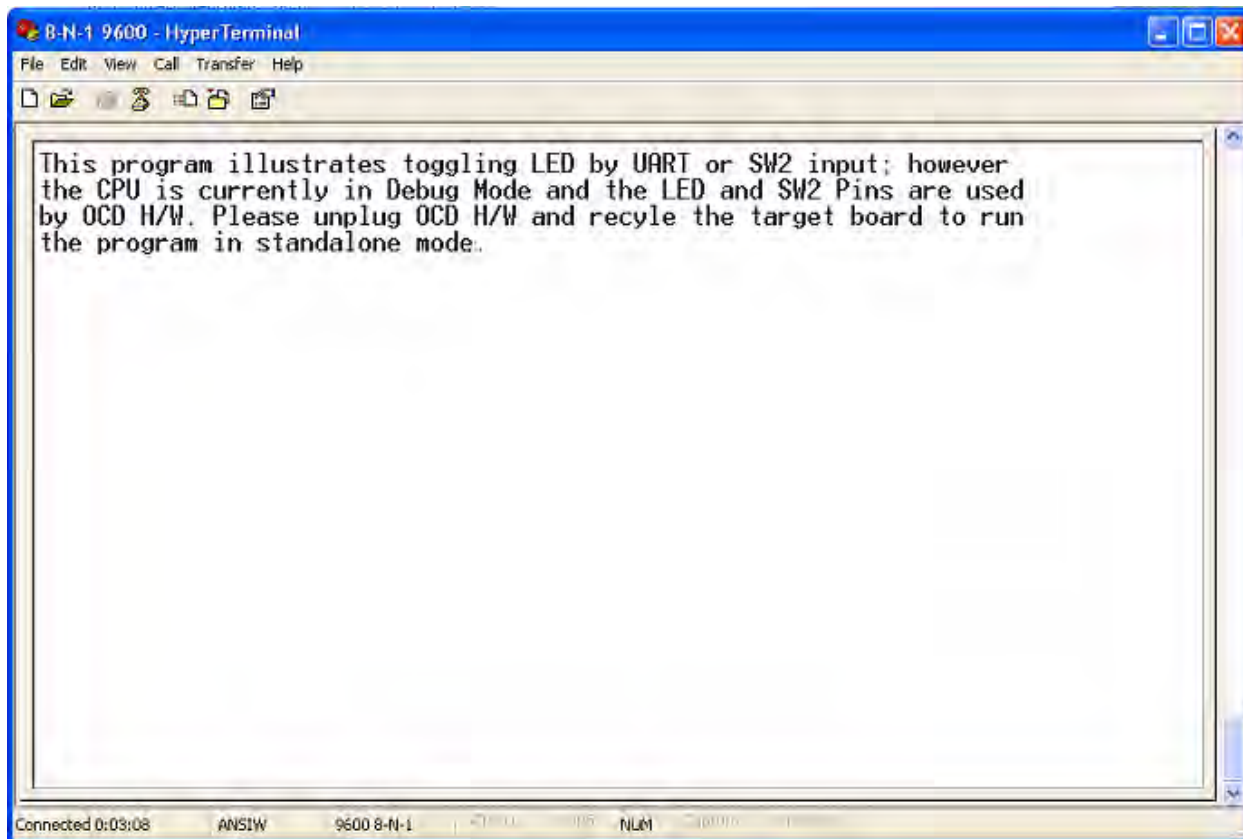

Figure 21. HyperTerminal Message After Selecting Go
11. From the **Emulation** menu of the OCD software, select **Go**. As a result, you should see the HyperTerminal message shown in Figure 21.
4. From the **Debug** menu, select **Run**. As a result, you should see the HyperTerminal message shown in Figure 21 on page 24.